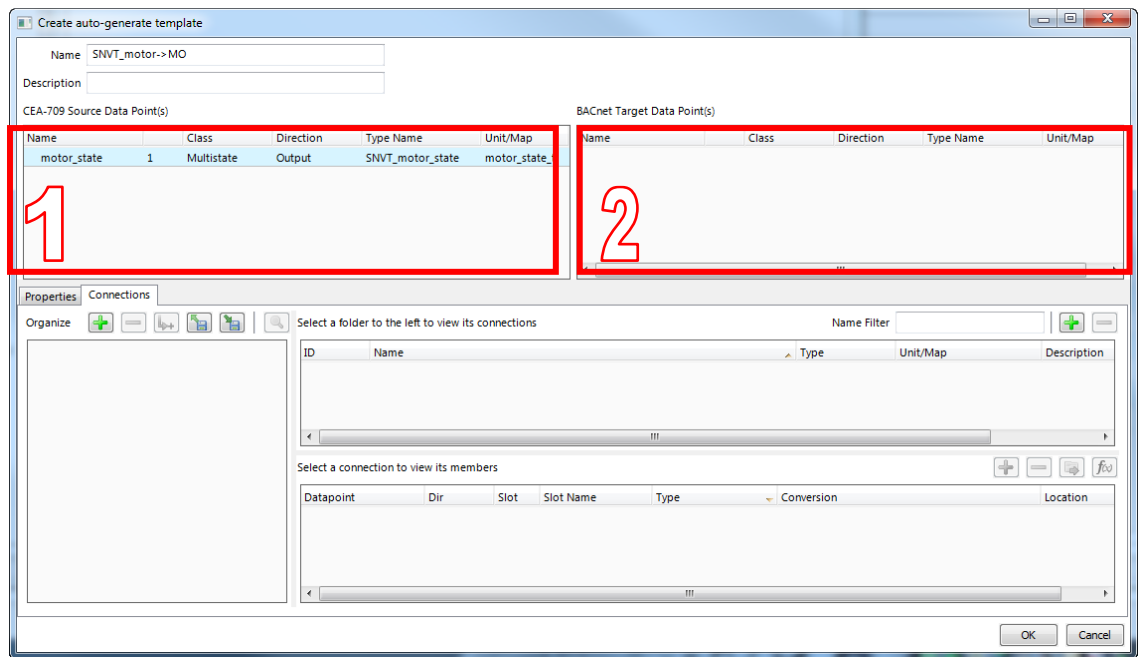

Figure 57: Auto-generate template editor.
- The auto-generate template editor opens as shown in Figure 57. It contains two data point lists. The left-hand (denoted '1') list is pre-filled and contains the selected source data points. They are locked and cannot be modified. The right-hand list (denoted '2') is intended for creating the desired target data points.
3. The auto-generate template editor opens as shown in Figure 57. It contains two data point lists. The left-hand (denoted '1') list is pre-filled and contains the selected source data points. They are locked and cannot be modified. The right-hand list (denoted '2') is intended for creating the desired target data points.